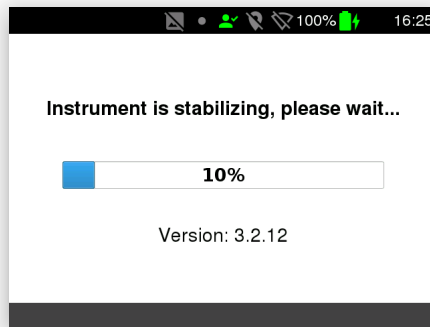

Figure 19: Initial stabilization
6. The RADEAGLE begins an initial stabilization (Fig. 19, p. 30, see C.1, p. 127 for details).